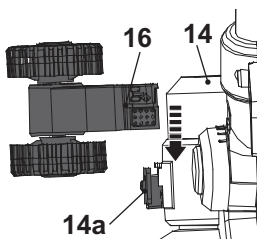

Fig. 2
1. Align the sliding slots of the edger wheel (16) with the edger support (14a) in front of the motor housing (14) and slide the edger wheel (16) in to attach it. Ensure it clicks in place (Fig. 2).